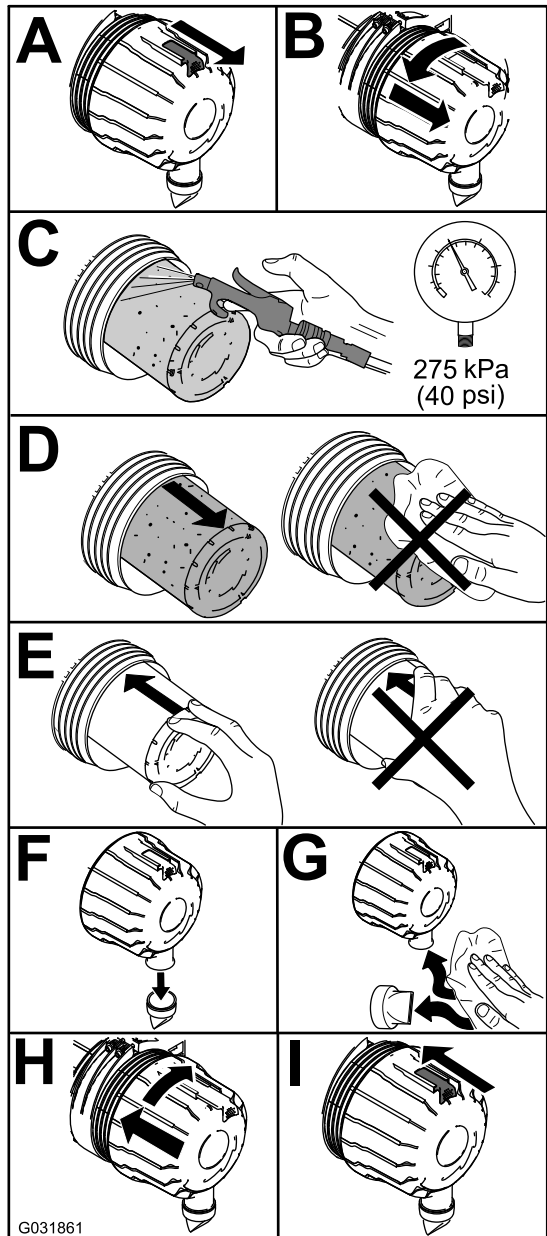

**Figure 80**
- Rear roller bearings (2 per cutting unit) as shown in Figure 80